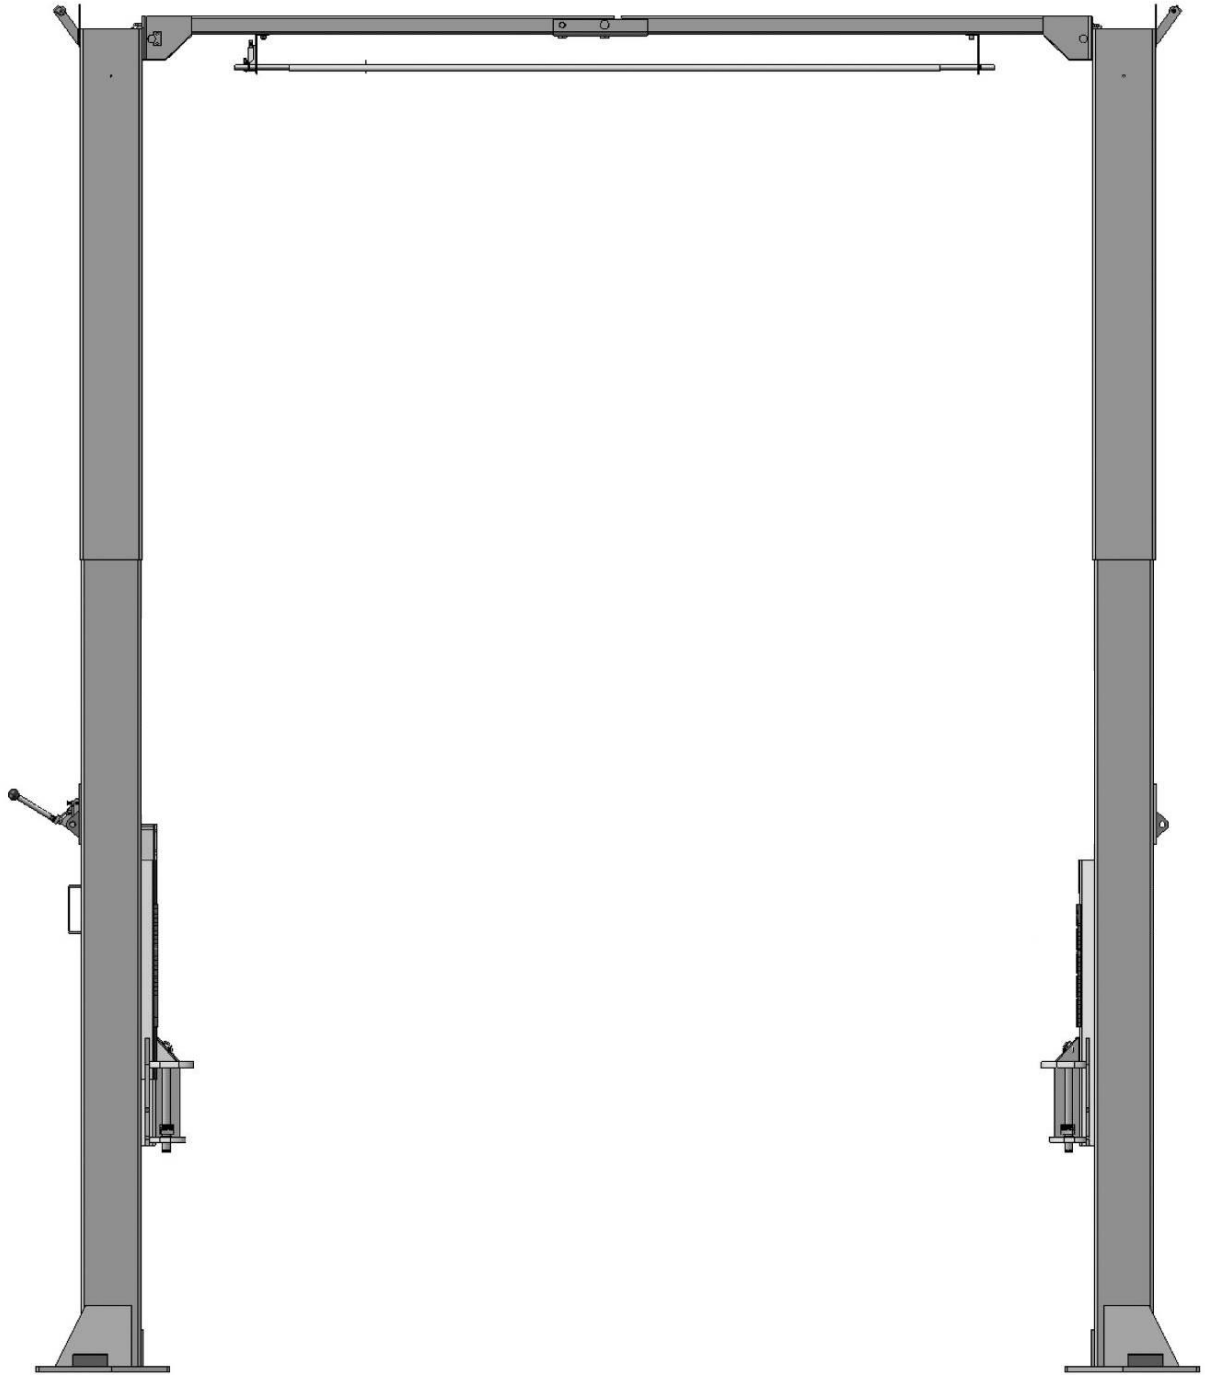

Fig. 25
K. Lift the carriages up by hand and make them be locked at the same level (**See Fig. 25**).